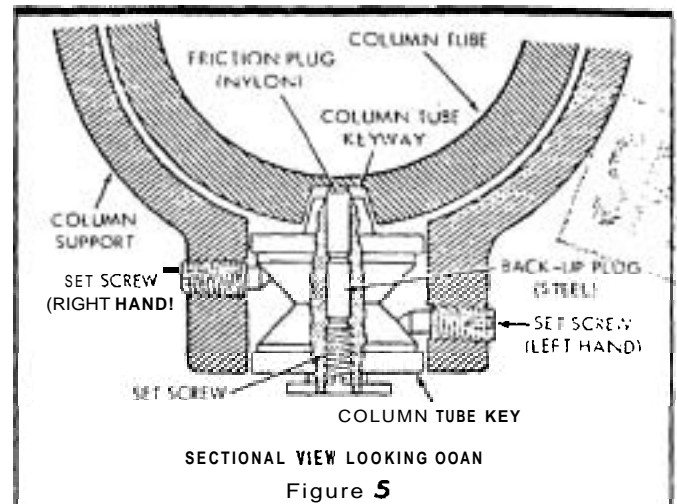
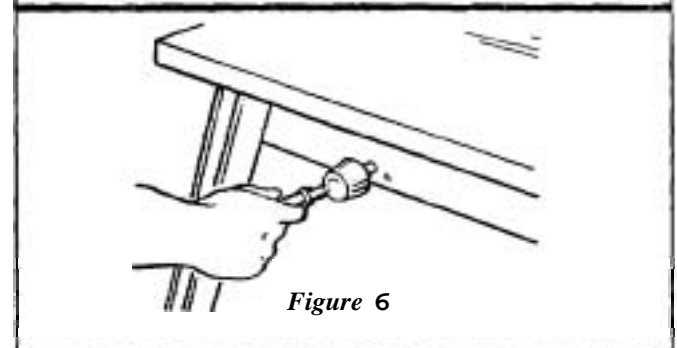

Figure 5
Figure 6
NOTE Before attempting to adjust the column tube key, the function of this adjustment should be understood. Figure 5 shows a sectional view through the column tube support (looking downward) at this location. By loosening the left-hand set screw and tightening the right-hand set screw the column tube key will be forced tighter into the column tube keyway. Conversely, loosening the right-hand set screw and tightening the left-hand
- Loosen set screw in center of column tube key. (See figure 5.)
- Loosen left-hand set screw $1/4$ turn. (See figure 5.)
- Tighten right-hand set screw. (See figure 5.)
- Tighten left-hand set screw. (See figure 5.)
- Turn elevation crank to raise and lower radial arm. (See figure 6.) If too tight, loosen right-hand set screw (figure 5) slightly and check again for smooth operation. When correct, tighten left-hand set screw
- Tighten set screw in center of column tube key (figure 5) until smoothest operation is obtained.